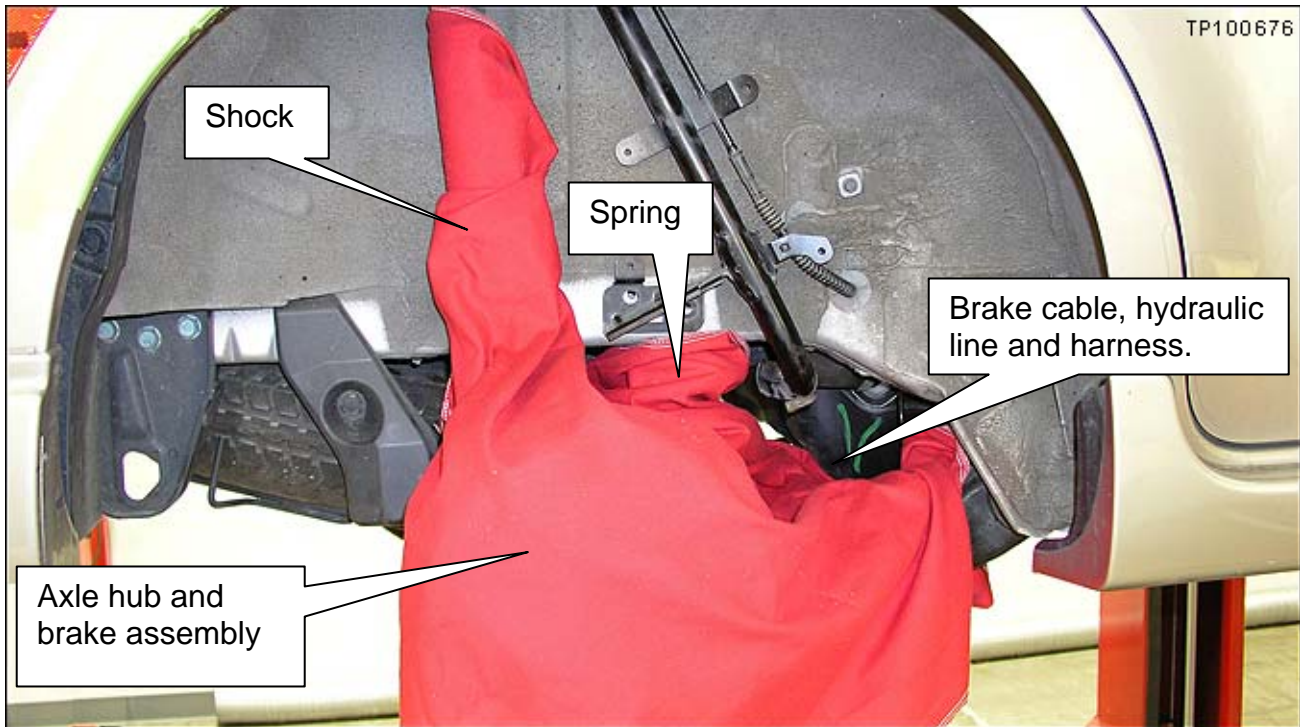

Figure 6
8. Use a protective cloth to cover the items shown in Figure 6.